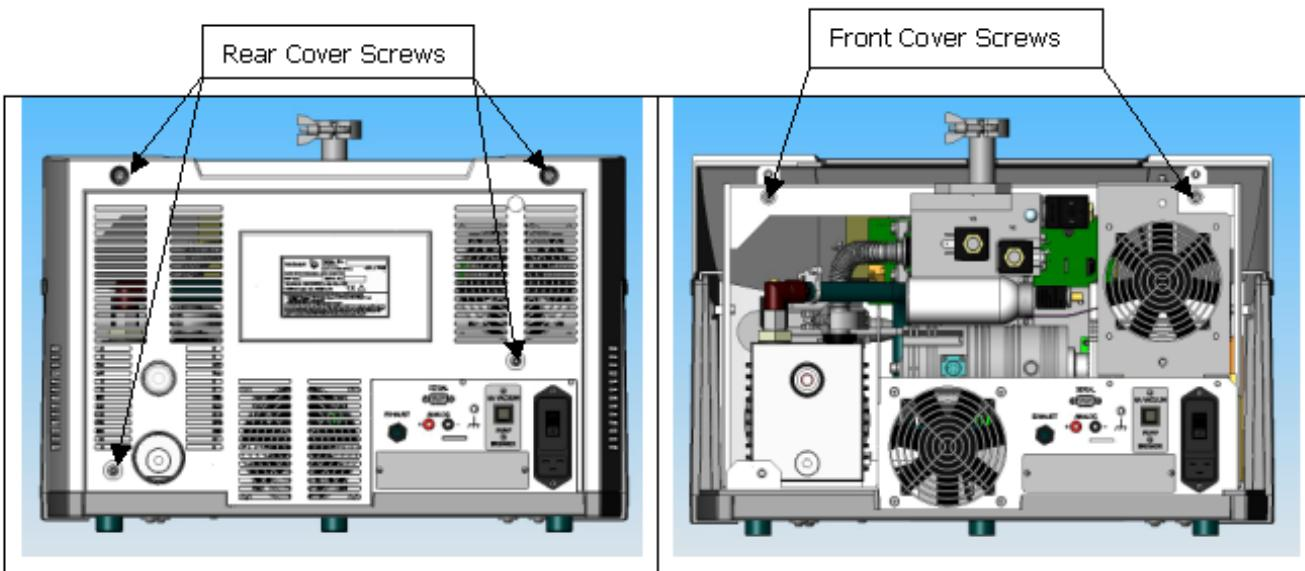

Figure 11: Rear and Front Cover Screws
3. Using an extended length M5 Allen wrench, remove the four screws holding the rear plastic cover (Figure 11: Rear and Front Cover Screws) and detach the rear plastic cover from the unit.